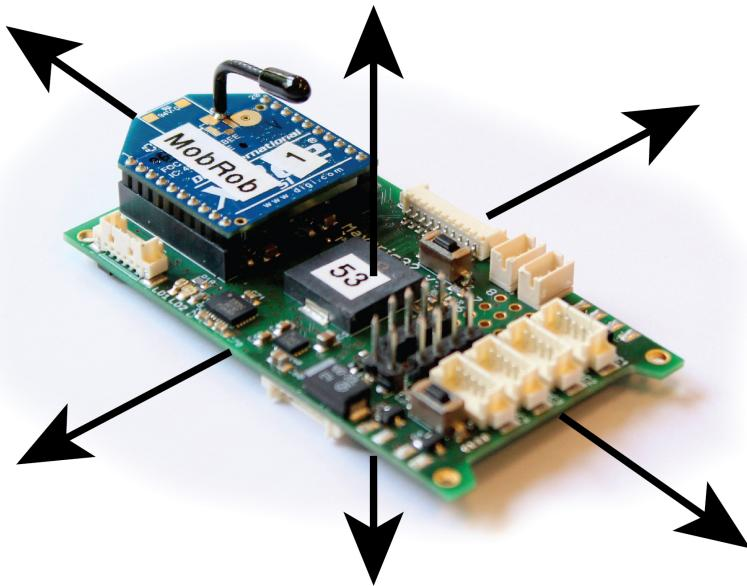
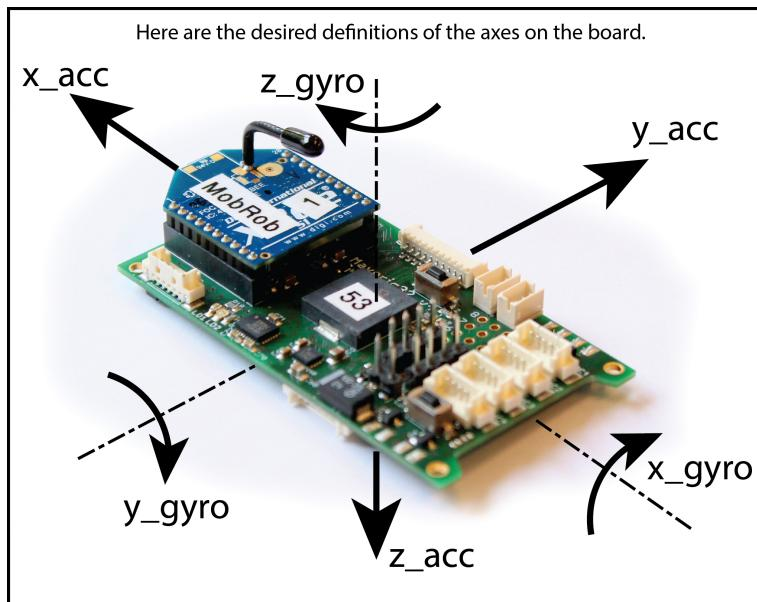

Figure 3.1: Orientation of the accelerometers on the MAV'RIC autopilot board.
Figure 5.2: Desired axes definitions for accelerometers and gyroscopes on the MAV'RIC autopilot board.
- c) Complete Fig. 3.1 with the good orientations of the accelerometers (you will have to modify the code accordingly later).
- e) Rotate the board smoothly over 1 full revolution (6). Shift smoothly the MAV’RIC board orientation by one graduation (7) and rotate one revolution again, continue until you have done one revolution for each graduation (8).
- a) In Atmel, open the file “.../src/config/MAVsettings/MAVxxx_conf_imu_rev4.h” (where “xxx” is the ID of your autopilot), change the orientations of the gyroscopes and accelerometers according to the figure that you filled. Change the define values: ACC_ORIENTATION_X, ACC_ORIENTATION_Y, ACC_ORIENTATION_Z, GYRO_ORIENTATION_X, GYRO_ORIENTATION_Y, and GYRO_ORIENTATION_Z; put either “1.0f” or “-1.0f” according to the orientation of the axis. Figure 5.2 gives the desired axes definitions of the MAV’RIC autopilot board, compare this figure with your observations in exercise 1 (see Fig. 3.1 3.2).